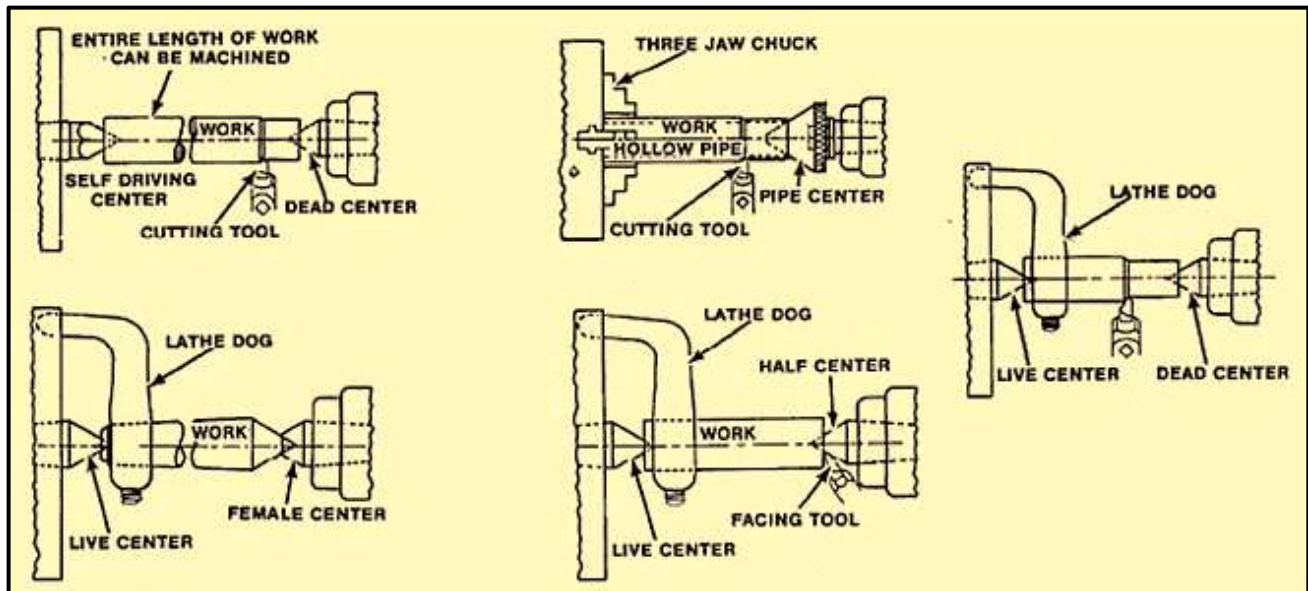

Figure 7-44. Holding work between centers.
**Method of Checking the Alignment of Centers:** The most accurate is by mounting the workpiece between centers and taking light cuts at both ends without changing the carriage adjustments. Measure each end of this cut with calipers or a micrometer. If the tailstock end is greater in diameter than the headstock end, the tailstock is moved toward the operator. If the tailstock end is smaller in diameter than the headstock end, the tailstock is moved away from the operator. Take additional cuts in the same manner after each adjustment until both cuts measure the same. To setup the workpiece between centers on the lathe, drive plate and lathe dog must be used (Figure 7-44).